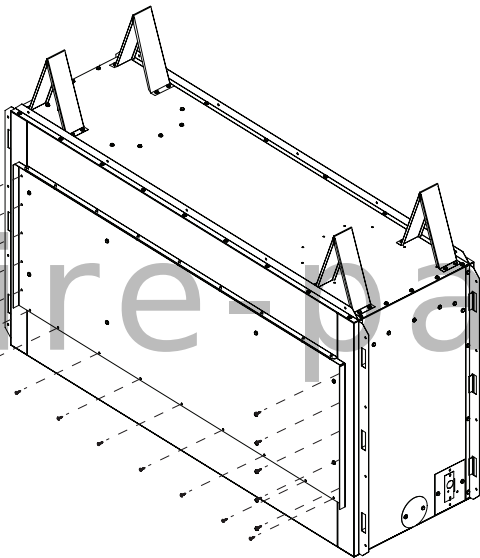

Figure 16 - Installing Rear Panel for Regular Applications
1. Using self-tapping screws provided and holes on rear panel as a guide, screw the rear panel to the fireplace as shown in **Figure 16**.